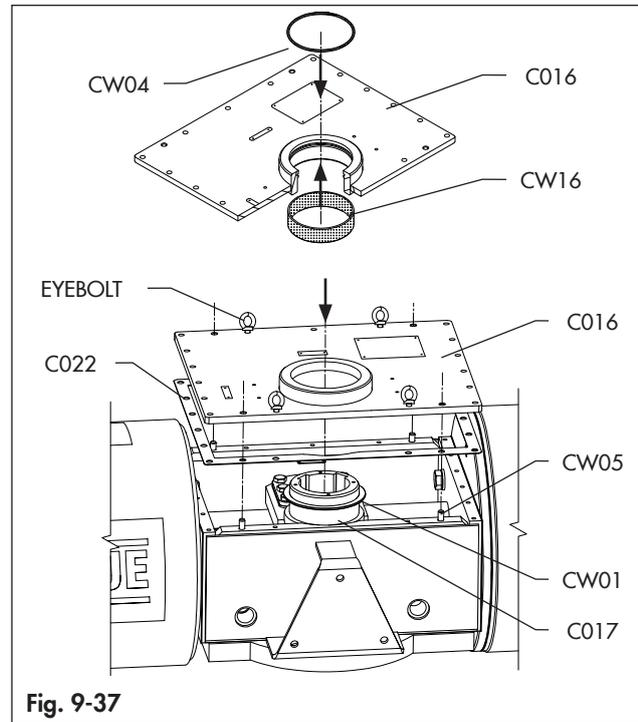

Fig. 9-37
- Clean, inspect, lubricate the related housings and replace the o-ring (CW04) and the bearing (CW16). (Fig. 9-37)